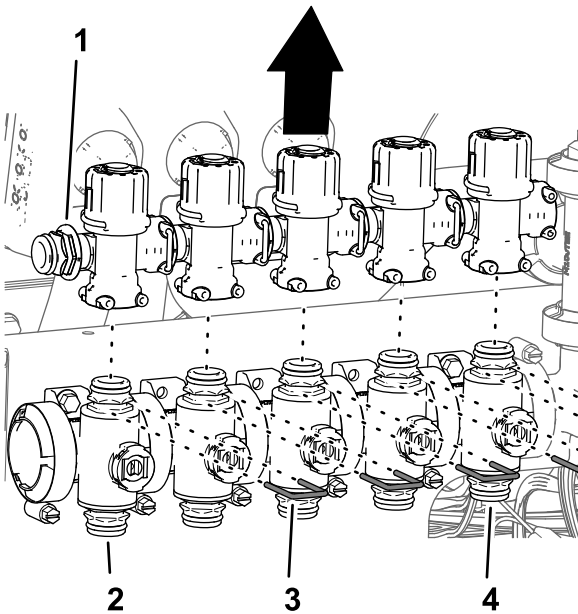

Figure 99
4. Remove the retainers that secure the bypass valves to nozzle valves 1 through 7 (Figure 99).
5. Lift the bypass valves from the nozzle valves 1 through 5 (Figure 99).